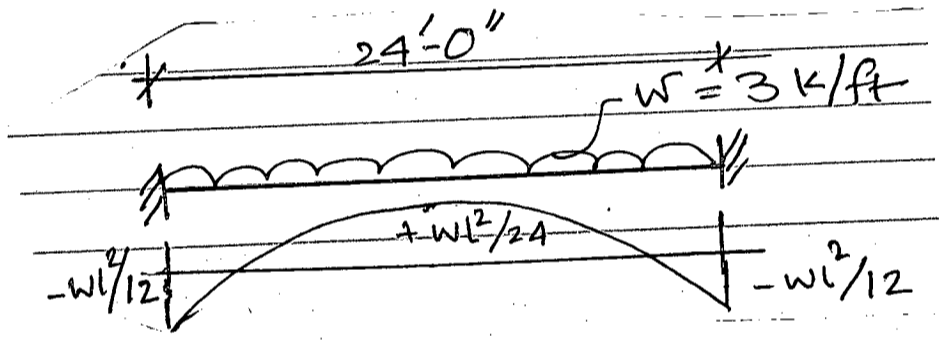
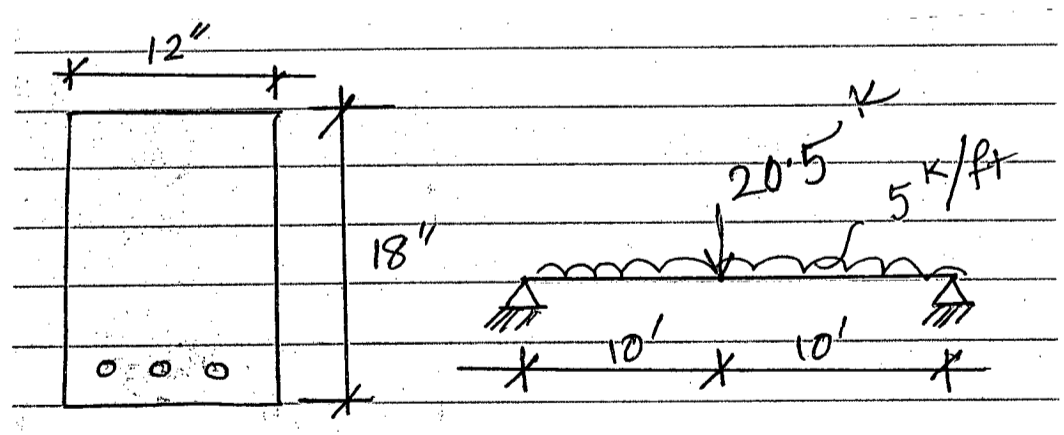

Fig. 7
Fig. 8
5. (a) What do you mean by concrete cylinder strength,  $f'_c$ , and yield strength of steel  $f_y$ ? (5)
- (b) An 8 ft span cantilever beam has a rectangular section ( $b = 8"$ ,  $h = 18"$ , and  $d = 15\frac{1}{2}"$ ). It is reinforced with 3#7 bars at the top. The beam carries a dead load, including its own weight, of 1.5 k/ft and a live load of 0.9 k/ft. Using  $f'_c = 4$  ksi,  $f_y = 60$  ksi, check if the beam is safe to carry the above loads. (12)
- (c) A rectangular beam ( $b = 12"$ ,  $h = 28"$ , and  $d = 26"$ ) is reinforced with 3#9 bars at the bottom. Determine the stresses caused by a bending moment,  $M = 160$  k-ft. Given,  $f'_c = 4$  ksi,  $f_y = 60$  ksi, and  $f_r$  (modulus of rupture) = 475 psi. (18)
6. (a) A floor system consists of a 4-inch concrete slab supported by continuous T-beams of 24-ft span, 48 inch on centers. Web dimensions are  $b_w = 12$  inch, and  $d = 20$  inch. What tensile steel area is required at midspan to resist a factored moment of 8200 kip-inch? Given,  $f'_c = 3$  ksi,  $f_y = 60$  ksi. (15)
- (b) Determine the required depth of the beam as shown in Fig. 7 and hence determine the flexural requirements at maximum positive moment and maximum negative moment sections. The beam carries a uniform live load of 3 k/ft. consider self-weight of the beam in addition to the live load. Draw the beam sections with reinforcement details. Given:  $f'_c = 3$  ksi,  $f_y = 60$  ksi. (20)
7. (a) A rectangular concrete beam measures 12 inch wide and has an effective depth of 18 inch. Compression steel consisting of 2#8 bars is located  $2 \frac{1}{2}$  " from the compression face of the beam. Tension steel consist of 6#9 bars in two layers. What is the design capacity of the beam? Given:  $f'_c = 4$  ksi,  $f_y = 60$  ksi. (15)
- (b) Design the shear reinforcement of the beam as shown in Fig. 8. The beam carries a factored uniformly distributed load of 5 k/ft and a factored concentrated load of 20.5 kip at mid-span of the beam. Given:  $f'_c = 4$  ksi,  $f_y = 60$  ksi. (20)
8. (a) It is good practice to design the beam such that the failure would be initiated by yielding of steel rather than by crushing of concrete. Why? (3)
- (b) What do you mean by balanced strain condition? Derive the expression for balanced reinforcement ratio,  $\rho_b$ . (7)
- (c) Describe diagonal tension in a RC beam. (5)
- (d) A rectangular beam of width  $b = 24$  inch is limited by architectural considerations to a maximum total depth  $h = 16$  inch. It must carry a total factored load moment,  $M_u = 400$  kip-ft. Design the flexural reinforcement for this member, using compression steel, if necessary. Allow 3 inch to the center of the bars from the compression or tension face of the beam. Show a sketch of your final design. Given,  $f'_c = 4$  ksi,  $f_y = 60$  psi. (20)